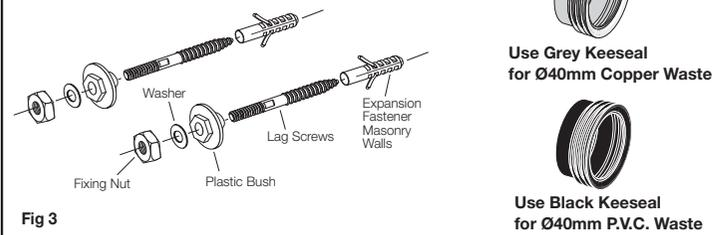

Fig 3
- 7- Ensure the Keeseal is fitted to basin outlet, as detailed in **Fig. 3**. Use Grey Keeseal for Ø40mm Copper Waste and Black Keeseal for Ø40mm P.V.C. waste, as detailed in **Fig.3**.